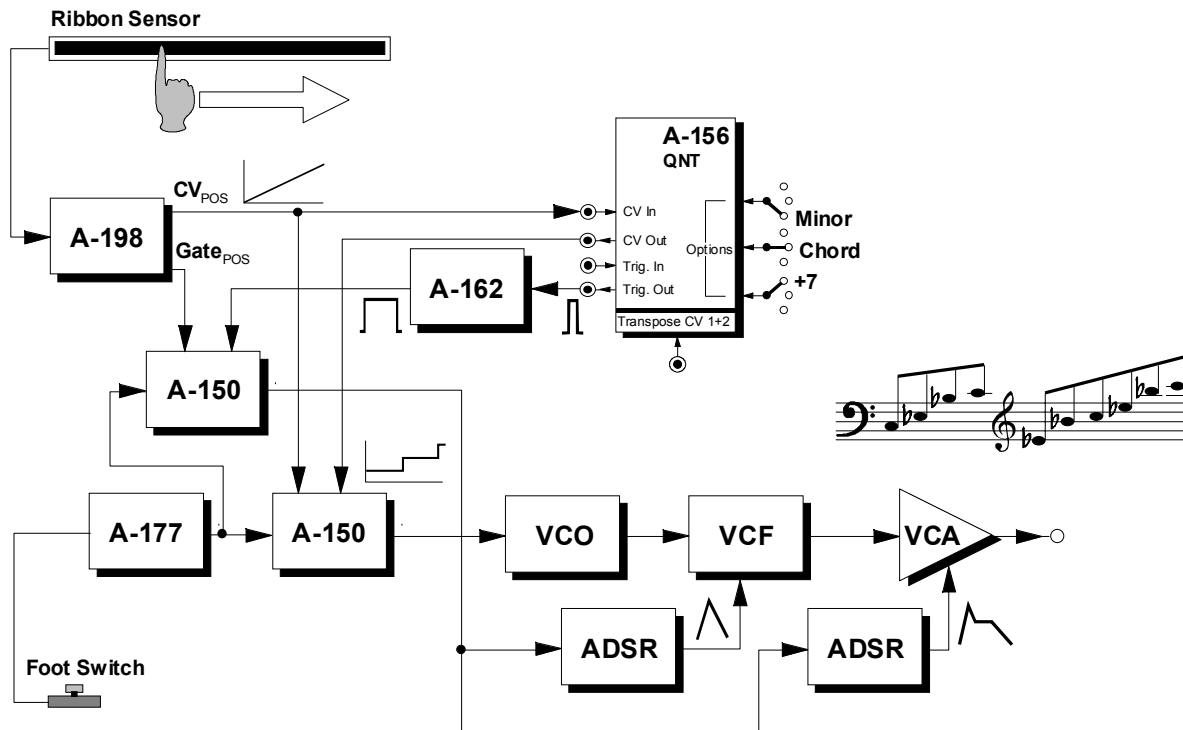

Fig. 4: A-198 as a "keyboard"
The patch of fig. 4 shows the application of the A-198 as a "keyboard". A foot switch in combination with the
- Feeding a keyboard or sequencer pitch control voltage to the transpose input of the quantizer (see fig. 4) transposes the sounds played on the A-198.